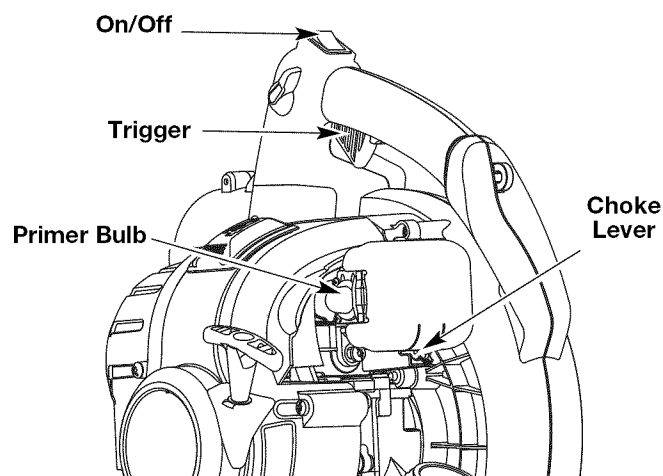

Fig. 11
3. Fully press and release the primer bulb 10 times, slowly. Some amount of **fuel should be visible in the primer bulb and fuel lines** (Fig. 11). If you can't see fuel in the bulb, press and release the bulb as many times as it takes before you can see fuel in it.
2. Press the On/Off Stop Control switch in the OFF (O) position and hold until the engine comes to a complete stop (Fig. 11).